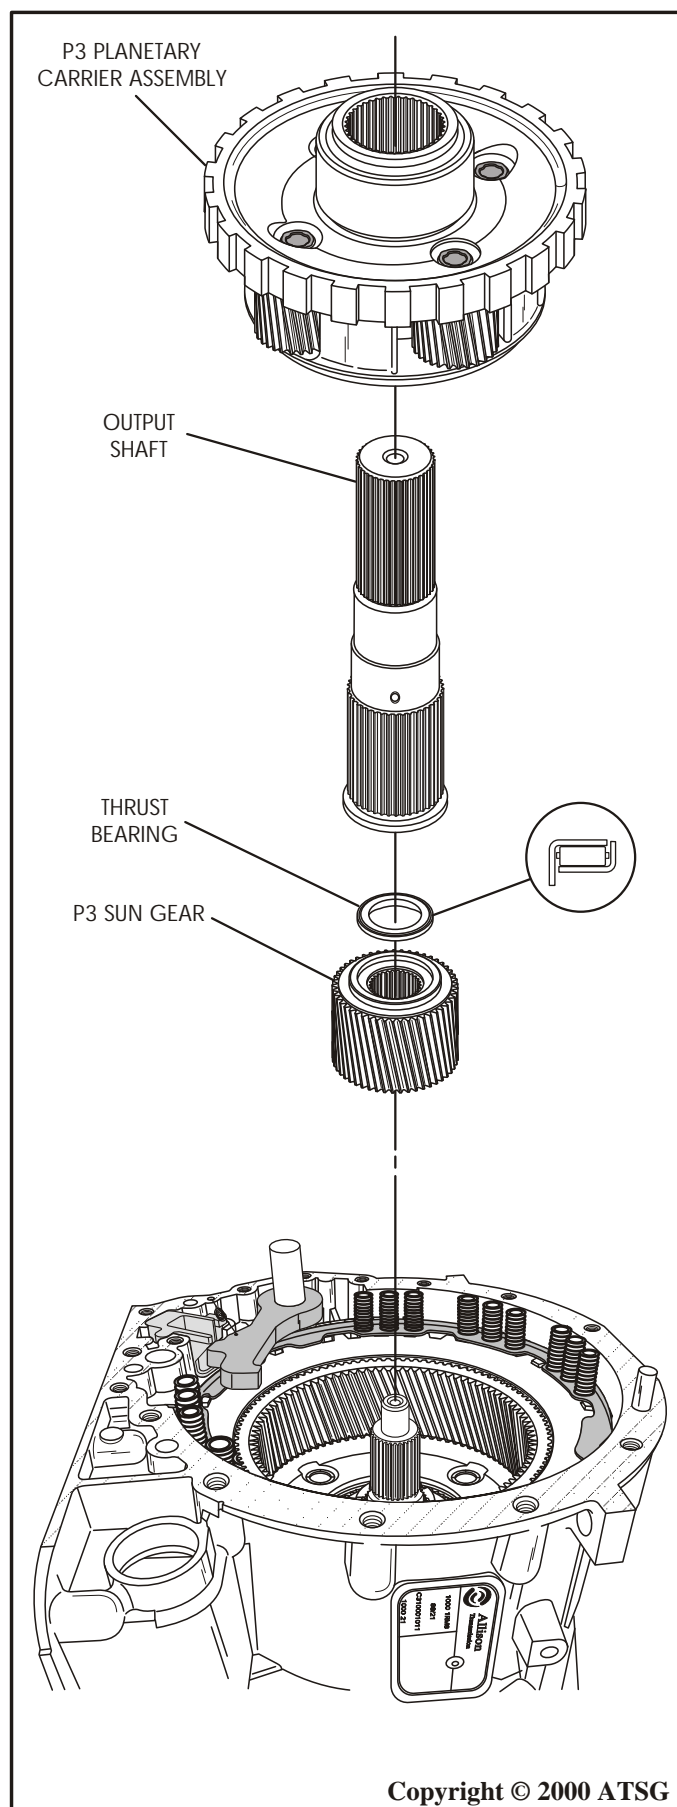

Figure 60
36. Grasp the output shaft splines and lift straight up, removing the output shaft and P3 planetary carrier as an assembly (See Figure 60).
37. Remove the P3 sun gear and the thrust bearing as shown in Figure 60.